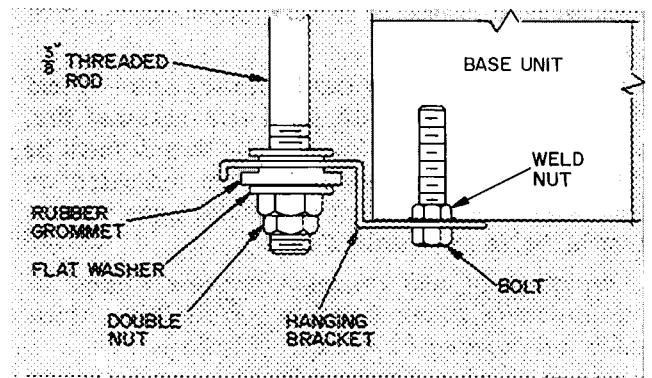

Fig. 3 — Suspension Kit Installation — 50HQ
f. 50HQ units include a suspension package for ceiling installation. To attach hanging brackets, install 4 bolts (5/16 - 18-3/8 in. lg) thru bracket into the 4 weld nuts located on bottom of unit. Insert the threaded rod thru rubber grommet located in hanging bracket and attach with flat washer and double nut. See Fig. 3.